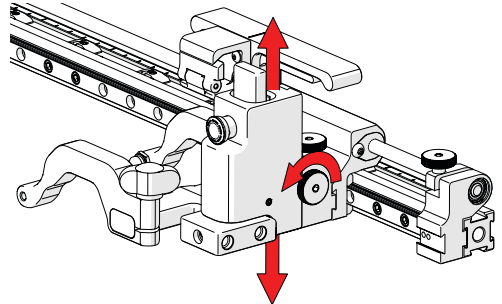

Fig. 27 - Vertical adjustment
2. The vertical adjustment knob (Fig. 27) allows the heavy duty vertical probe holder's height adjustment. This adjustment also controls the probe holders spring tension.